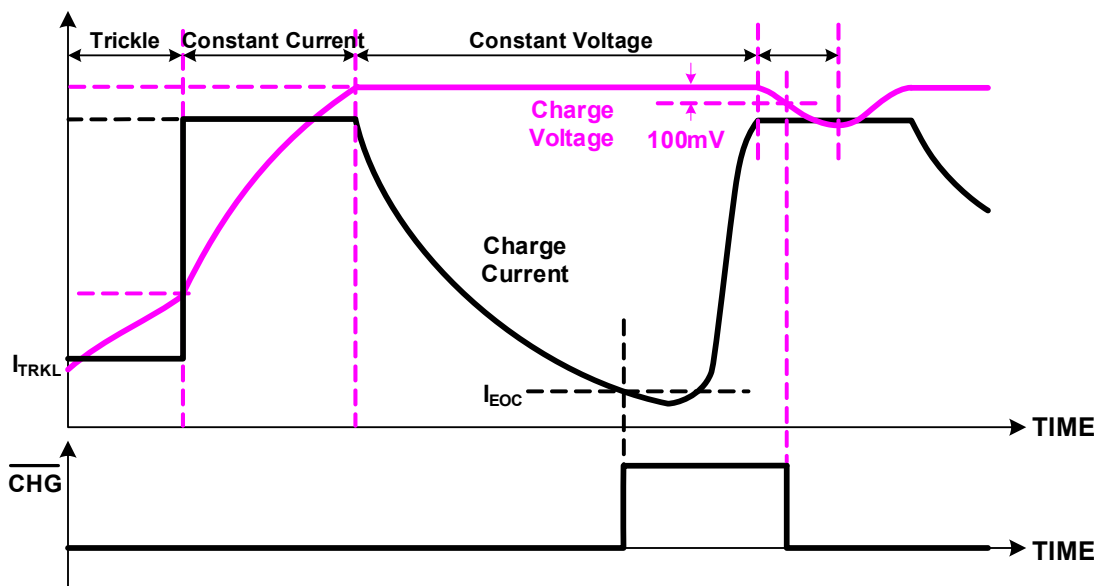
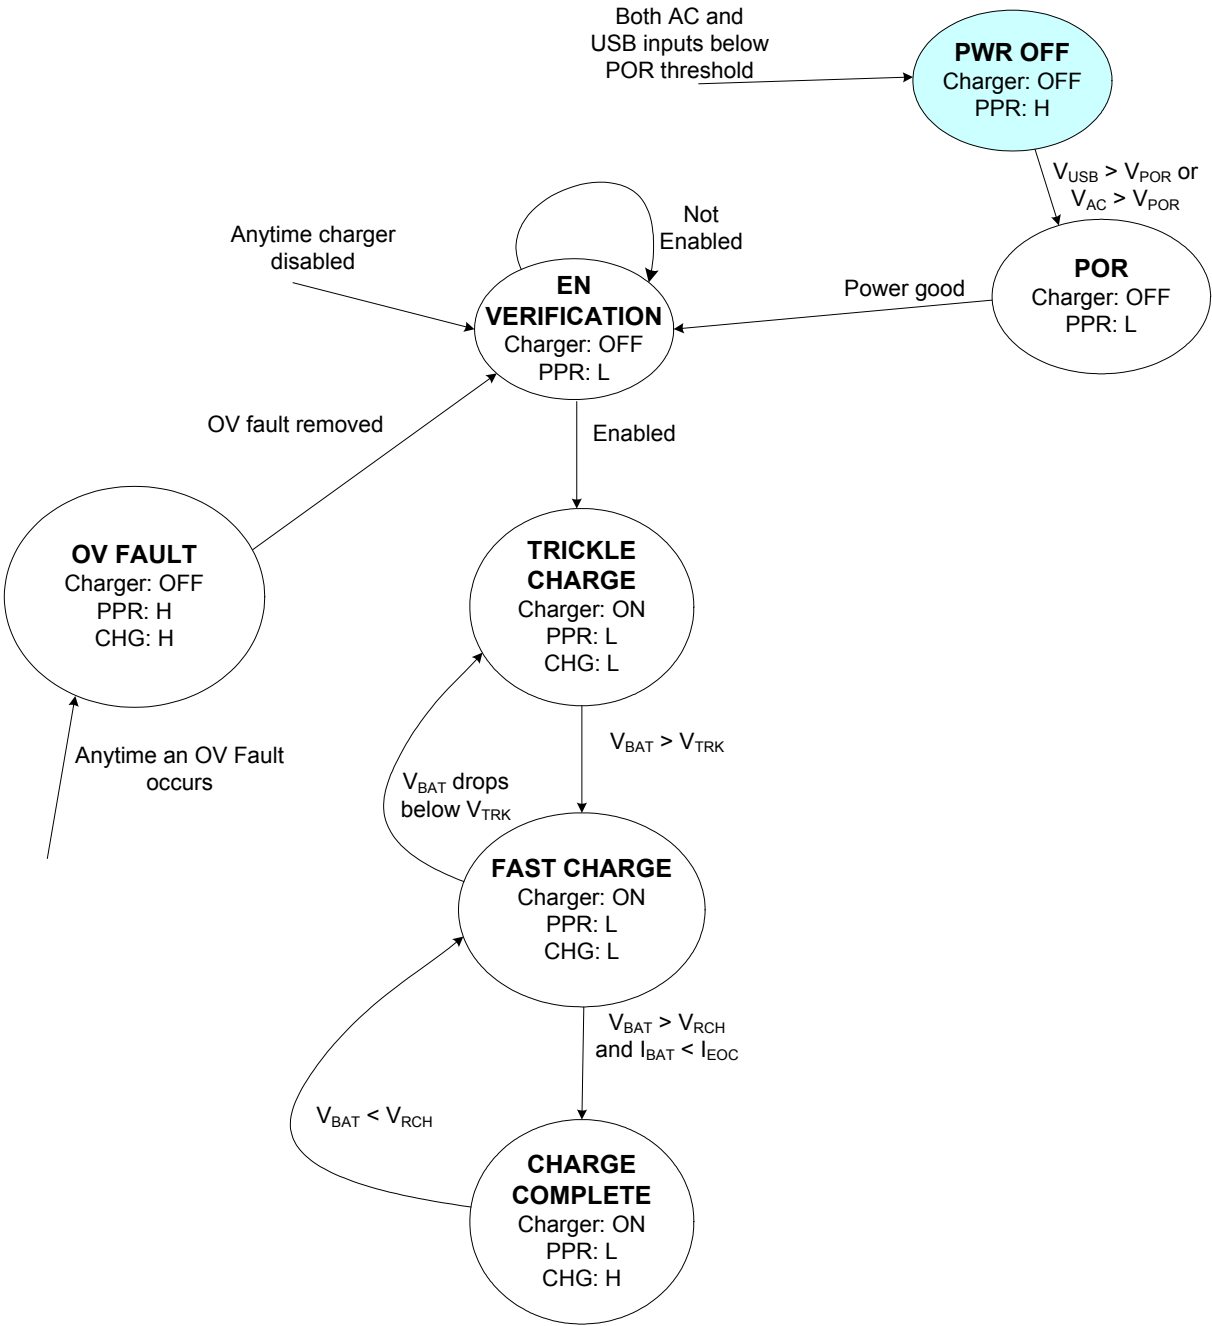

Figure 37. Typical Charge Cycle
Figure 40. Charge Cycle State Diagram
The 34676 uses the standard charge profile with trickle mode, constant-current (CC) mode, and constant-voltage (CV) mode, as shown in Figure 37. Both the CC-mode and the CV-mode are called fast charge mode. Figure 40 shows the complete charge cycle state diagram.